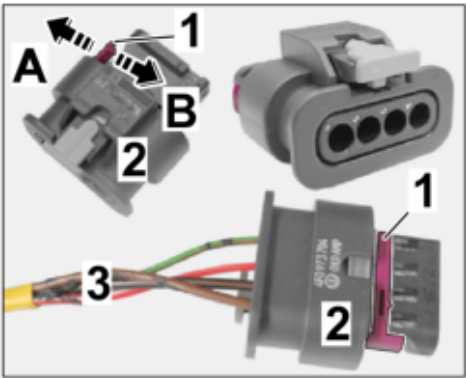

Figure 31
- 3.4.1 Release the socket housing (4-pin, see parts list). ⇒ *Figure 31 -A-*
- 3.4.3 Lock the socket housing (4-pin, see parts list). ⇒ *Figure 31 -B-*